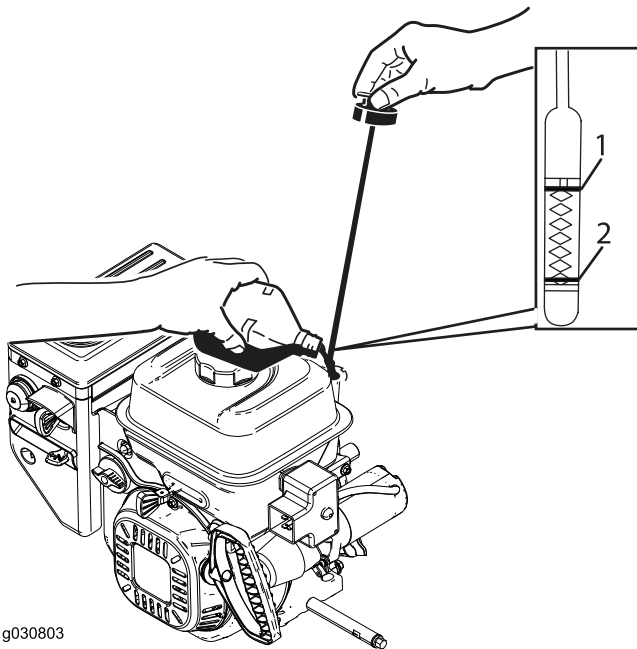

Figure 35
2. Remove the dipstick and check the oil level (Figure 35). If the oil level is below the Add mark on the dipstick,